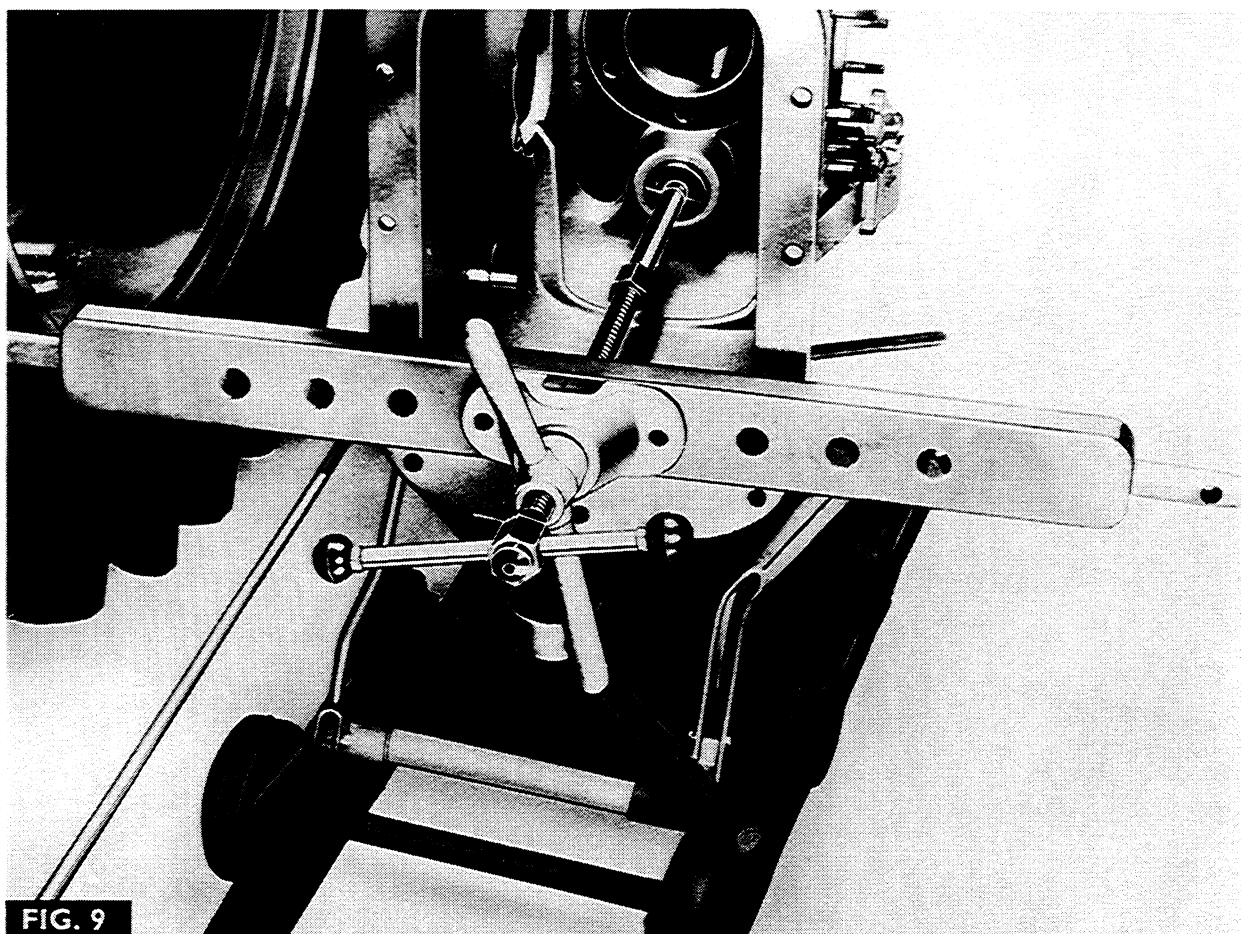

FIG. 9
9. Screw the tool bar portion MF 195-5/2 into the adapter MF 195-4/1 then, using a suitable support bar for MF 195, pull the bush out of the centre housing, as shown in Figure 9.